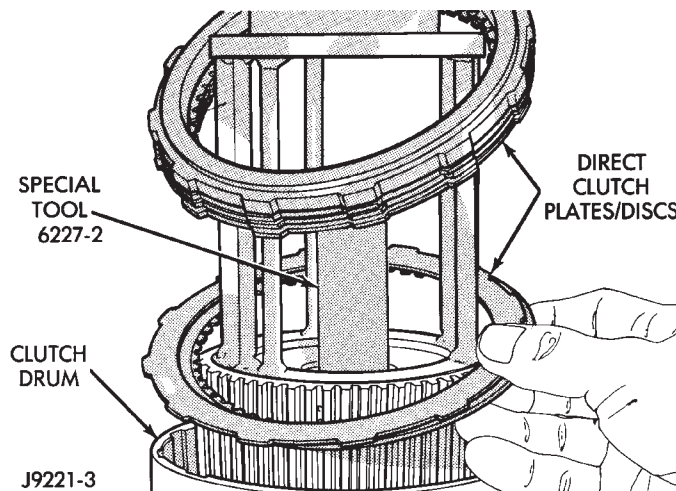

Fig. 53 Seating Clutch Pack In Drum
(28) Slowly compress clutch hub and spring (Fig. 53). Compress spring and hub only enough to expose ring grooves for clutch pack snap ring and clutch hub retaining ring.
(29) Realign clutch pack on hub and seat clutch discs and plates in clutch drum (Fig. 53).